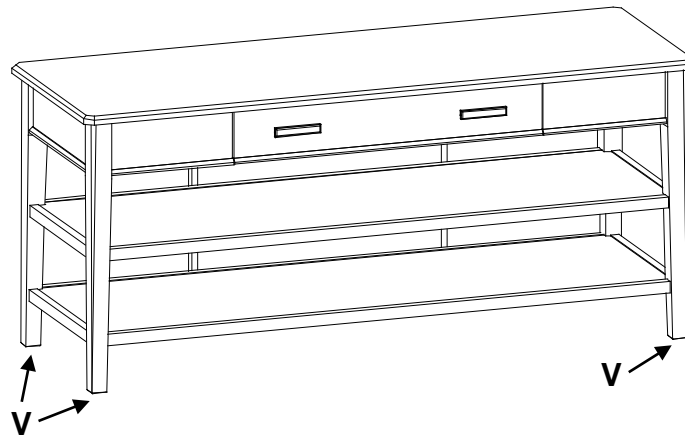

Fig. 8
8. Turn the table upright and insert the Drawer. See Figure 8.
9. Place the unit at its final destination. To level the table, rotate the Adjustable Glides (V) found on the bottoms of the legs. See Figure 8.